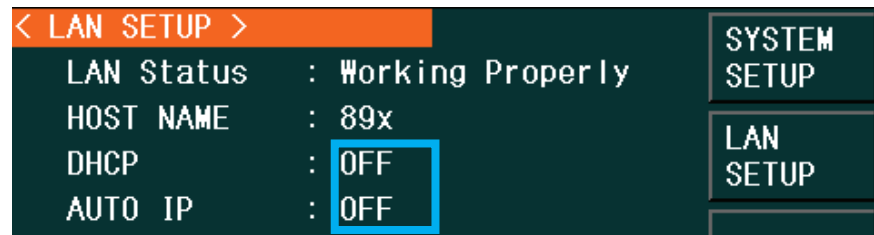

Figure 3
- DHCP is currently not supported. Make sure to DHCP and AUTO IP to off. (fig. 3).